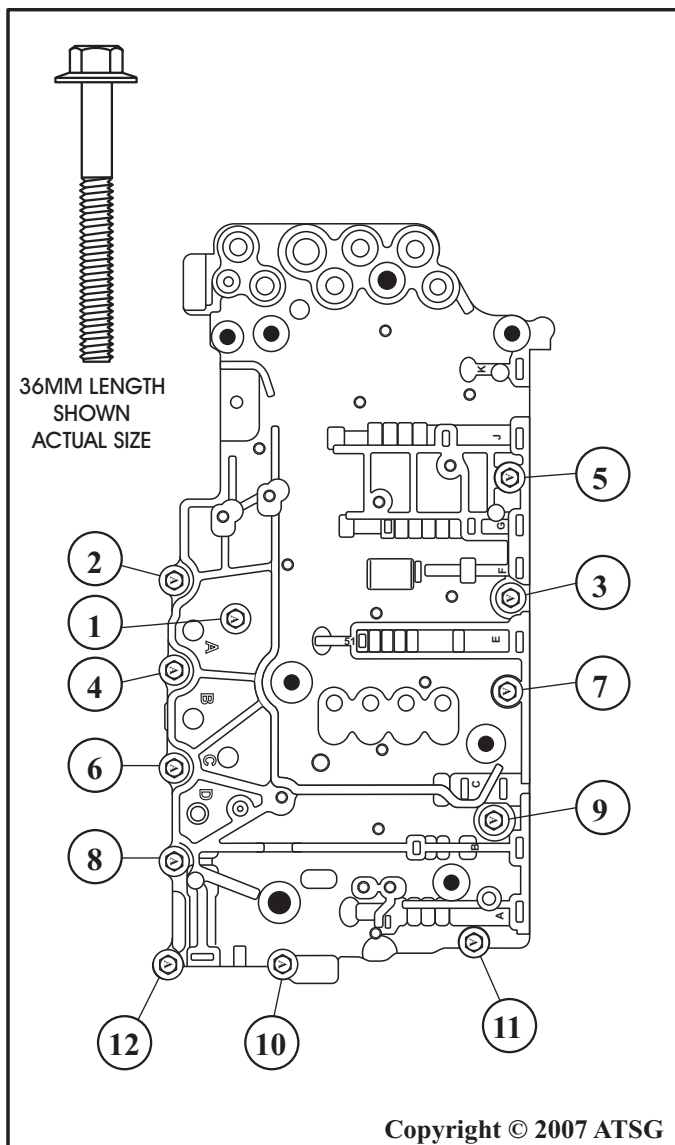

Figure 144
22. Turn the complete assembly over and install 12 valve body bolts, 36mm in length, in locations shown in Figure 144.
23. Torque the 12 upper valve body to lower valve body bolts to 8 N·m (71 in.lb.), using the sequence shown in Figure 144.